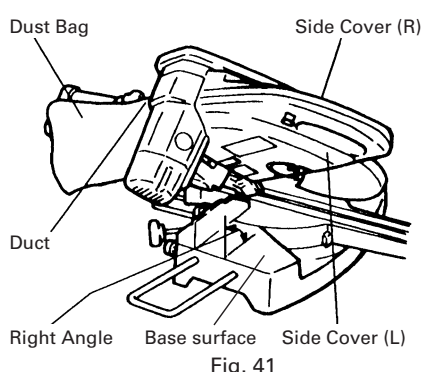

Fig. 41
- (1) When the dust bag has become full of sawdust, dust will be blown out of the dust bag when the saw blade rotates. Check the dust bag periodically and empty it before it becomes full.
- (2) During bevel and compound cutting, attach the dust bag at a right angle to the base surface as shown in Fig. 41.